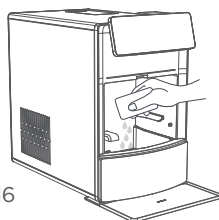

Figure 16
3.1.2 Wipe the inner side of the water tank body with a wet sponge or cloth (see Figure 16).